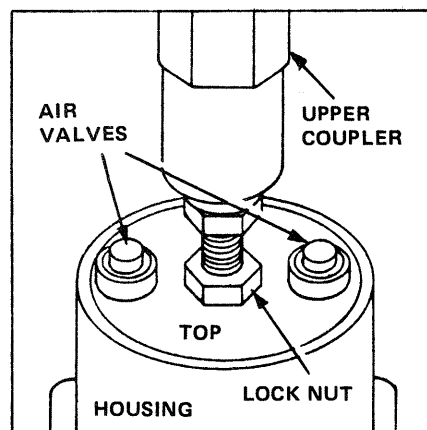

FIGURE 9-24 Dashpot Air Valves.
- O. Tighten, first, one and then the other of the Air Valves on the top of the Dashpot (see FIGURE 9-24) to decrease the noise of Solenoid operation. After making this adjustment, replay Program 9 and check to make sure the Solenoid has enough thrust to lift the Dampers. If necessary, repeat Procedures A to L under this Step (starting on page 131) to increase its thrust. See the NOTE below.